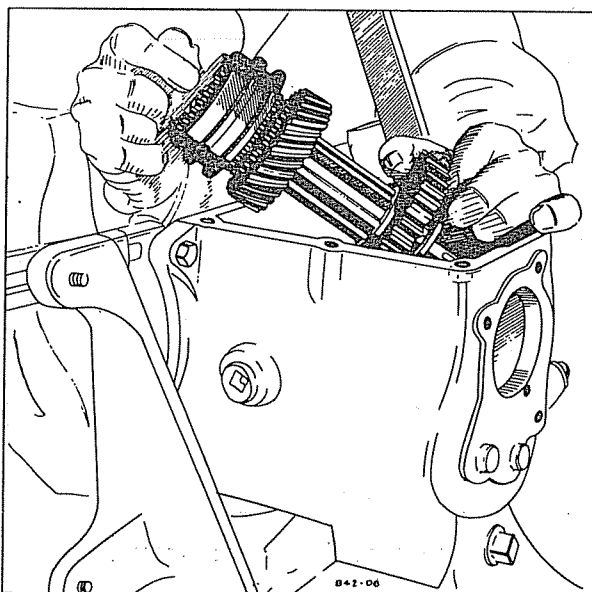

Fig. 4—Removing Mainshaft Assembly (3-Speed).
- (10) Lift out the mainshaft and gear assembly out of the case. (Figure 4).
- (11) Slide the low and reverse gear off the mainshaft.
- (12) Remove the clutch gear snap ring and slide it off the synchroniser and second speed assembly.
- (13) Remove countershaft lock screw and lock plate.
- (14) Drive the countershaft out of the rear end of case, using a special arbour and soft hammer. Drop the countershaft gear set to the bottom of case.
- (15) Pull the main drive pinion out of the front of case.
- (16) Remove the drive pinion bearing lock nut and bearing.
- (17) Lift out the countershaft gear assembly and thrust washer. Remove the arbour and inspect